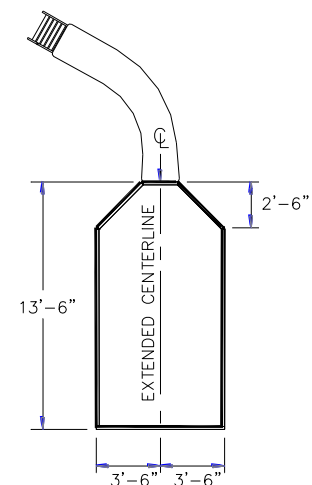

FIGURE 3
- A. The minimum clearance distance on either side of the extended centerline of the slide runway shall not be less than three feet six inches (3'-6") at a point no less than two feet six inches (2'-6") from the exit lip of the slide and extending a distance of thirteen feet six inches (13'-6") in front of the slide as shown in FIGURE 3.
See Article 5 contained in ANSI/APSP/ICC-5 2011 STANDARD FOR RESIDENTIAL INGROUND SWIMMING POOLS and refer to FIGURE 3 and Table 1 for Minimum Water Envelope Dimensions AB, BC and Width at Point C. For Pool Type VI-IX, see Article 6.6 in ANSI/APSP-1 2003 STANDARD FOR PUBLIC SWIMMING POOLS and refer to Minimum Dimensions for Diving Portion of Class B and C Pools.